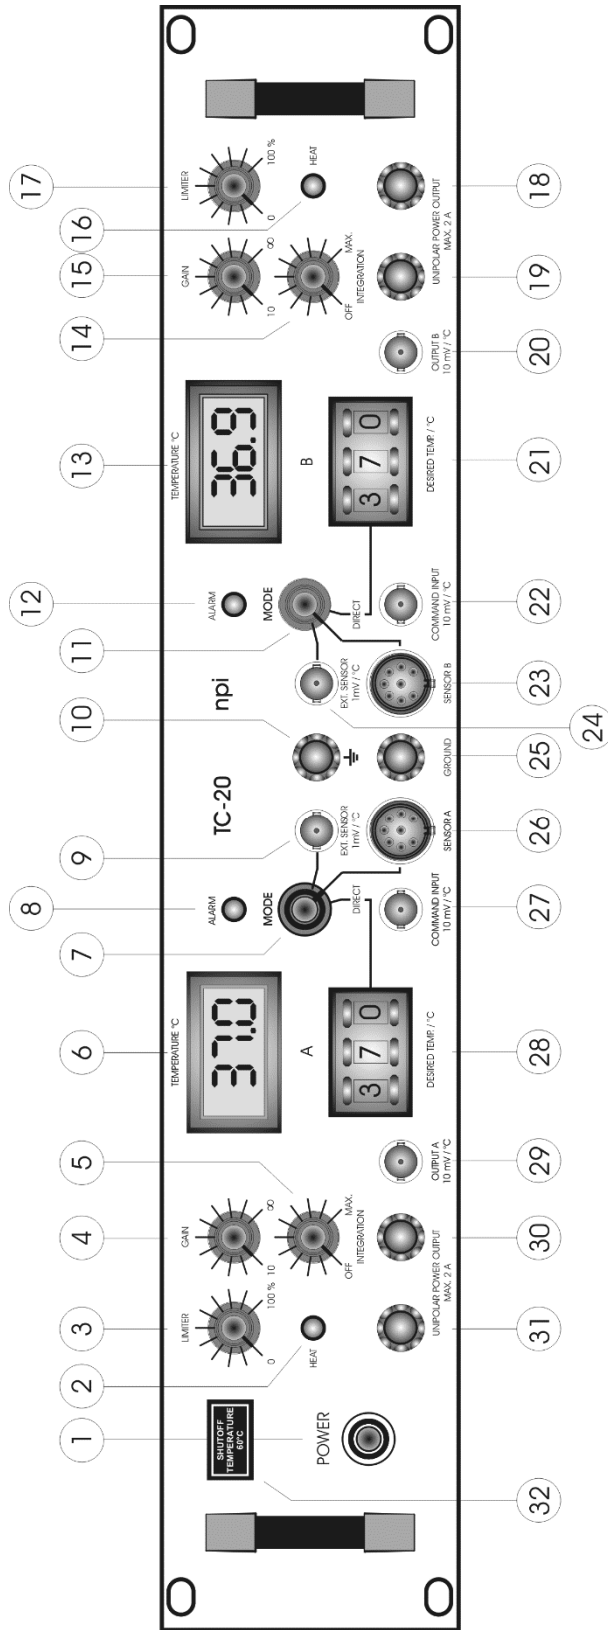

Figure 1: TC-20 front panel view
In the following description of the front panel elements each element has a number that is related to that in Figure 1. The number is followed by the name (in uppercase letters) written on the front panel and the type of the element (in lowercase letters). Then, a short description of the element is given. Some elements are grouped in functional units (e.g. MODE of operation unit) and are described as units regardless of the order of numbers.
In DIRECT mode (no temperature control): the MODE switch (**7** (channel **A**) or **11** (channel **B**), Figure 1) is set to the DIRECT position. The control unit is not active, i.e. the output voltage is preset directly at the DESIRED TEMP. control (**28** (channel **A**) or **21** (channel **B**, Figure 1). With the setting from 000 to 999 the output voltage increases linearly from 0 V to 12 V. The ALARM circuit (see below) is disabled in this mode.
In this mode the output voltage is controlled by the PI controller (PI [proportional-integral controller system] activated). The temperature signal which is used for the control unit is SENSOR A for channel **A** and SENSOR B for channel **B**. The temperature is measured with a small semiconductor sensor connected to SENSOR A and / or to SENSOR B and displayed at the respective digital display unit (**6** or **13**, Figure 1, XX.X °C).
If no sensor is connected or if the sensor is damaged or short circuited the internal shut-off unit disconnects the power output. This state is indicated by the red ALARM LED (**8** or **12**, Figure 1) located just above the MODE switch.
This mode can be used to connect an external thermometer. The calibration of the external input (EXT. SENSOR 1mV / °C, (**9** or **24**, Figure 1)) is 1 mV / °C. If this option is used the internal ALARM circuits are disabled.
2. If the user wants to have external control (e.g. with a computer system) the *DESIRED TEMPERATURE* can be set using the *COMMAND INPUT 10mV / °C* connector (**27** or **22**, Figure 1). The *COMMAND INPUT* is scaled 10mV / °C, i.e. +370 mV at this connector would set the *DESIRED TEMPERATURE* to +37 °C.
To avoid ground loops the internal ground of the system is floating, i.e. it is not connected to the protective earth of the line cable while the cabinet is always connected via the power supply cable (green / yellow wire). The system can be grounded by connecting plug **10**, Figure 1 (protective earth) or **25**, Figure 1 (internal ground).